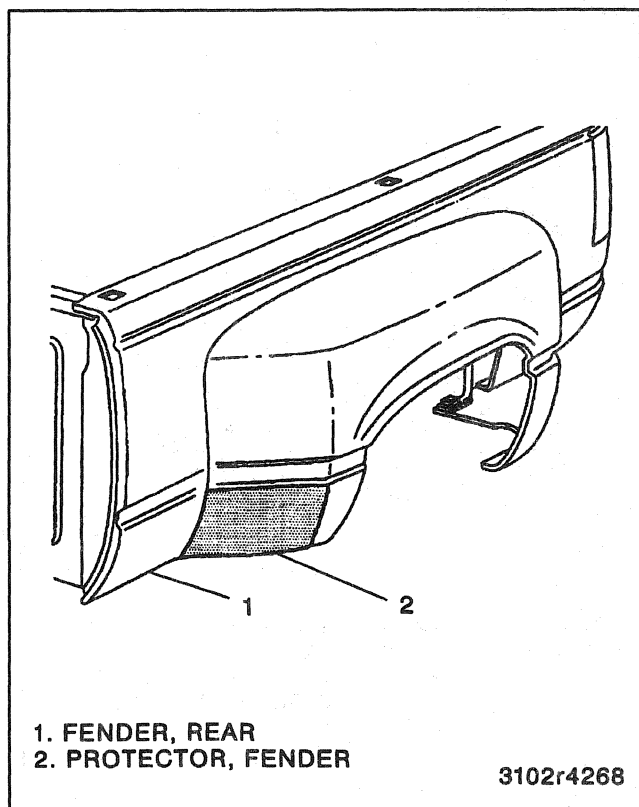

Figure 30—Fender Protectors
1. Be sure the fender is clean (Figure 30).